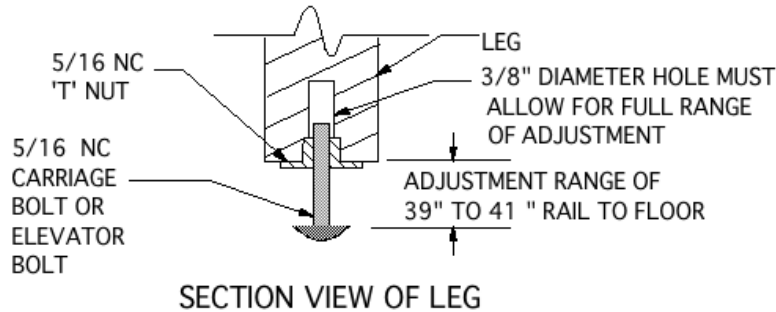

FIGURE 3
- C. Legs -. The nominal height of the railhead is 40" from the floor. Height must be adjustable +/-1" from the nominal 40" after the module is set up. The legs must not interfere with the installation of the front plastic panels. One method of providing the required height adjustment is shown in Figure 3.